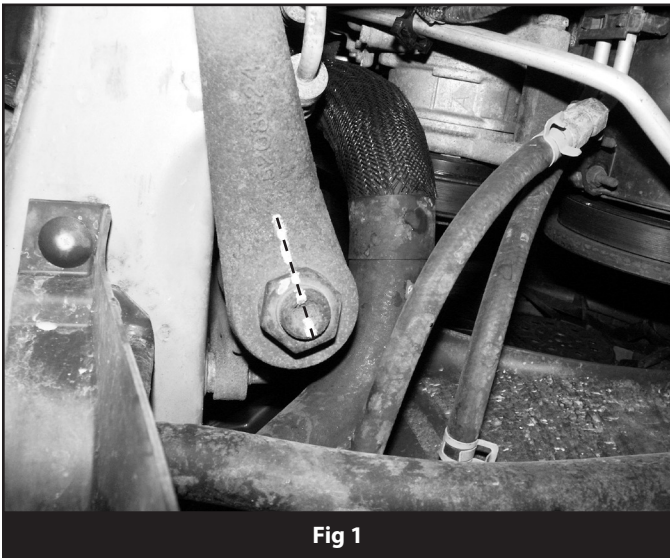

Fig 1
3. **Important:** Make an indexing mark on the pitman arm and steering box sector shaft to indicate the relationship between the two for installation (Fig 1). Remove the pitman arm nut and washer. Using a pitman arm puller remove the pitman arm from the sector shaft.